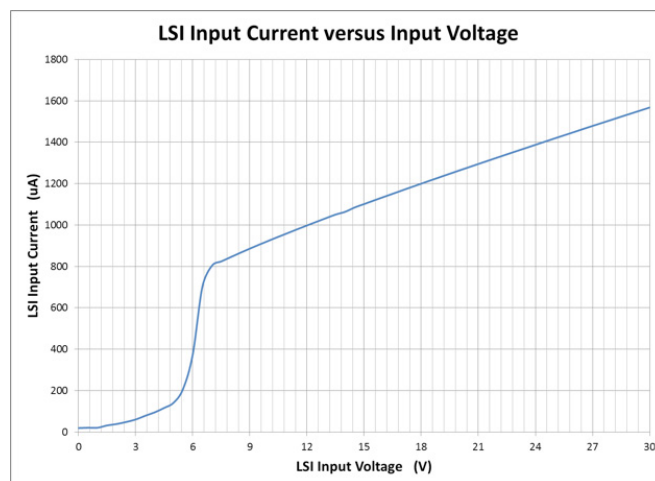

Figure 11. LSI input V-I characteristics.
- Input level “High”: 7-27V. In this voltage range, the LSI input will be considered high. Sinking current in this range will be limited to 2mA max. See Figure 11 for the V-I characteristics of the LSI input.